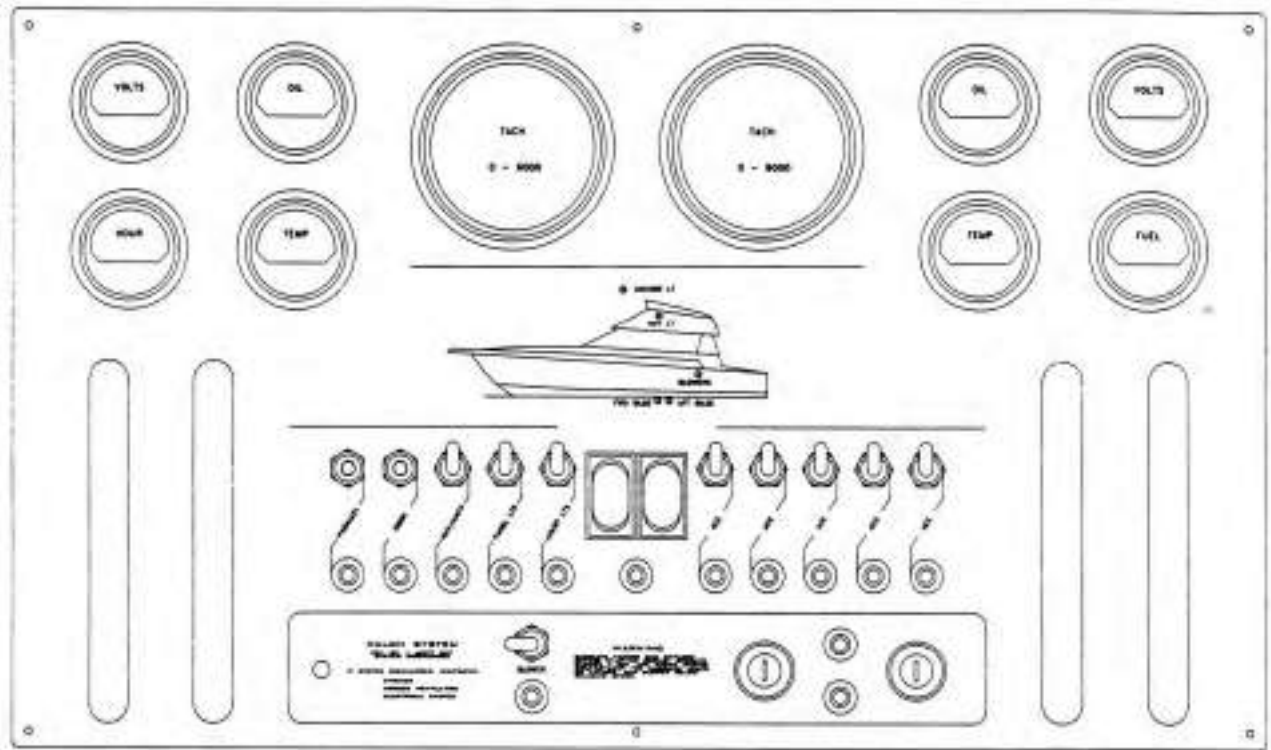

Figure 4-9 – Typical Helm Switch Panel
- a. Press the PARALLEL START switch on the helm switch panel (**Figure 4-9**) while you turn the key to START.